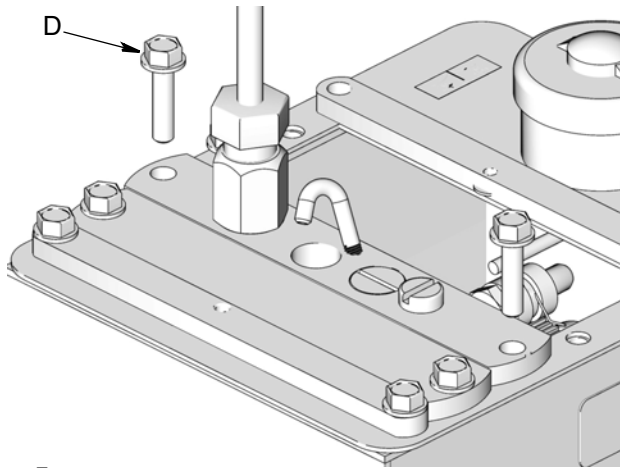

FIG. 5
- a. Remove the discharge line connection and the pump mounting screws (D) (FIG. 5).